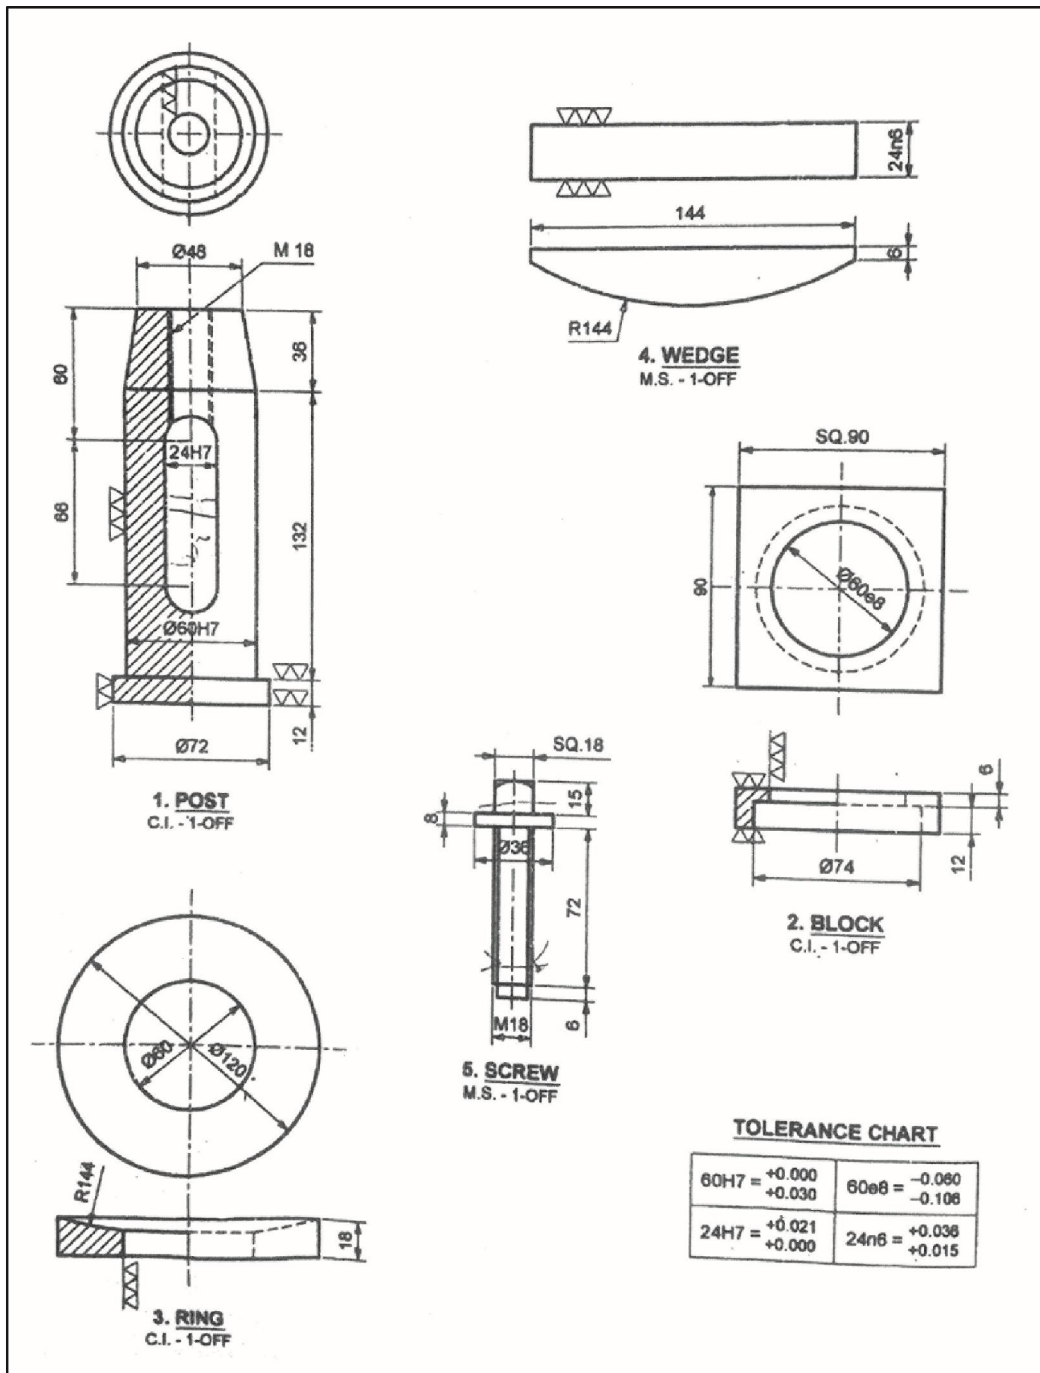

Fig. No.-4
- (a) Fig. No. 4 shows the details of Lathe tool post :